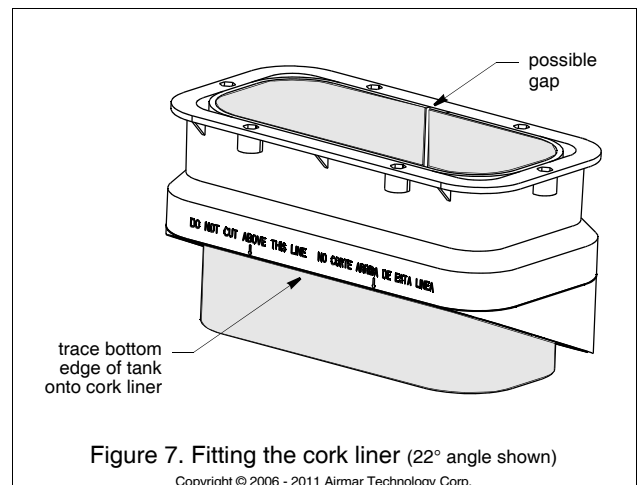

Figure 7. Fitting the cork liner (22° angle shown)
4. The tank is provided with a cork liner to reduce sound echoes. After the tank has been cut, wrap the cork liner around the *inside* of the tank (see Figure 7). Butt the sides of the liner along the center of the tallest side. Trace the bottom edge of the tank onto the liner.